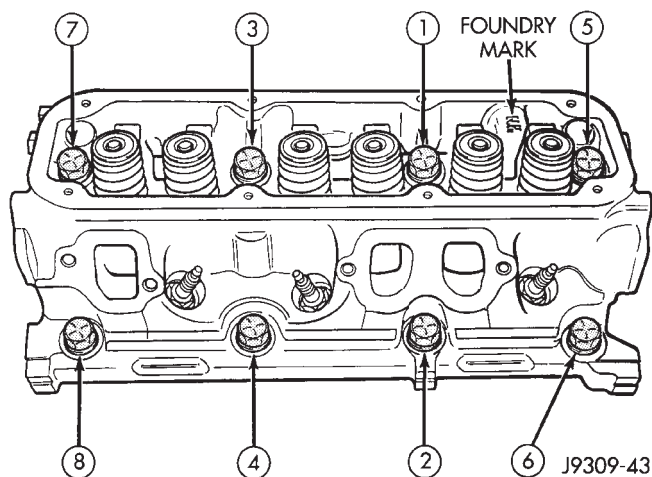

Fig. 20 Cylinder Head Bolt -Tightening Sequence
(1) Position the new cylinder head gaskets onto the cylinder block.
(2) Position the cylinder heads onto head gaskets and cylinder block.
(3) Starting at top center, tighten all cylinder head bolts, in sequence, to 68 N·m (50 ft. lbs.) torque (Fig. 20). Repeat procedure, tighten all cylinder head bolts to 143 N·m (105 ft. lbs.) torque. Repeat procedure to confirm that all bolts are at 143 N·m (105 ft. lbs.) torque.